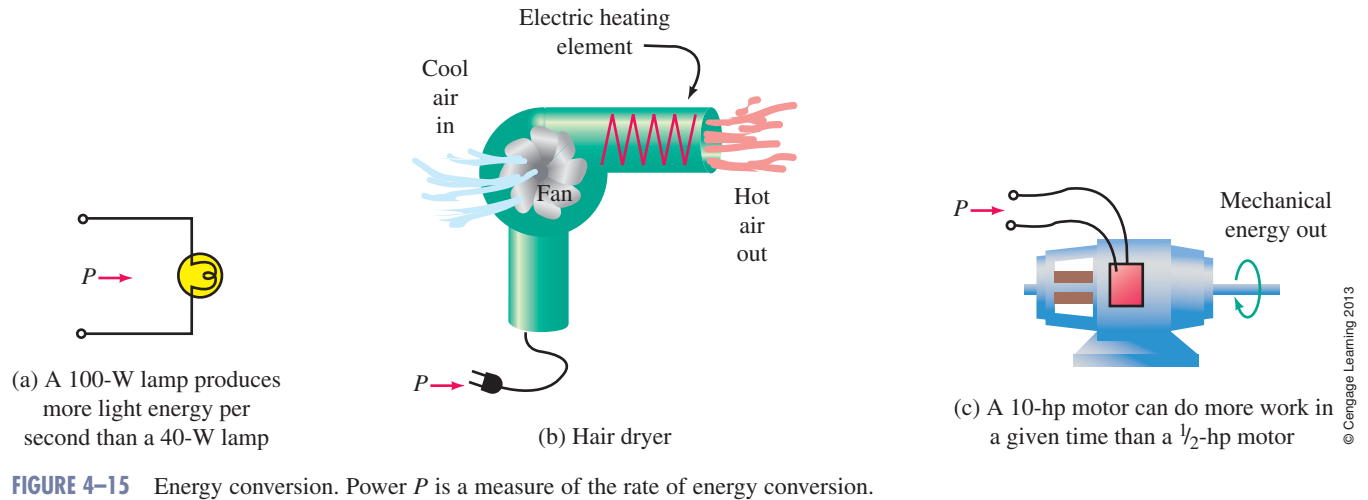

FIGURE 4-15 Energy conversion. Power P is a measure of the rate of energy conversion.
Power is familiar to all of us, at least in a general sort of way. We know, for example, that electric heaters and light bulbs are rated in watts (W) and that motors are rated in horsepower (or watts), both being units of power as discussed in Chapter 1. We also know that the higher the watt rating of a device, the more energy we can get out of it per unit time. Figure 4-15 illustrates the idea. In (a), the greater the power rating of the light, the more light energy it can produce per second. In (b), the greater the power rating of the heater, the more heat energy it can produce per second. In (c), the larger the power rating of the motor, the more mechanical work it can do per second.
If the dc motor of Figure 4-15(c) draws 6 A from a 120-V source,